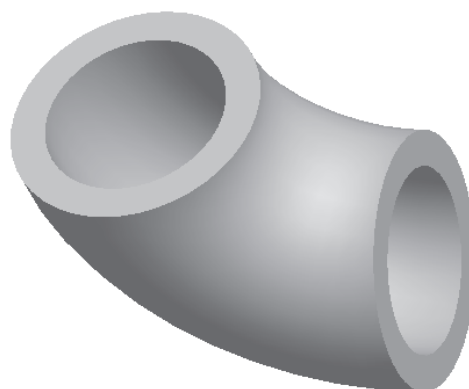

Figure 8-92 Shell feature without datum
- c. Create the shell feature of given thickness, refer to Figure 8-92.
The default trimetric view of the shell feature is shown in Figure 8-92. You can use the middle mouse button to view the model from various directions.